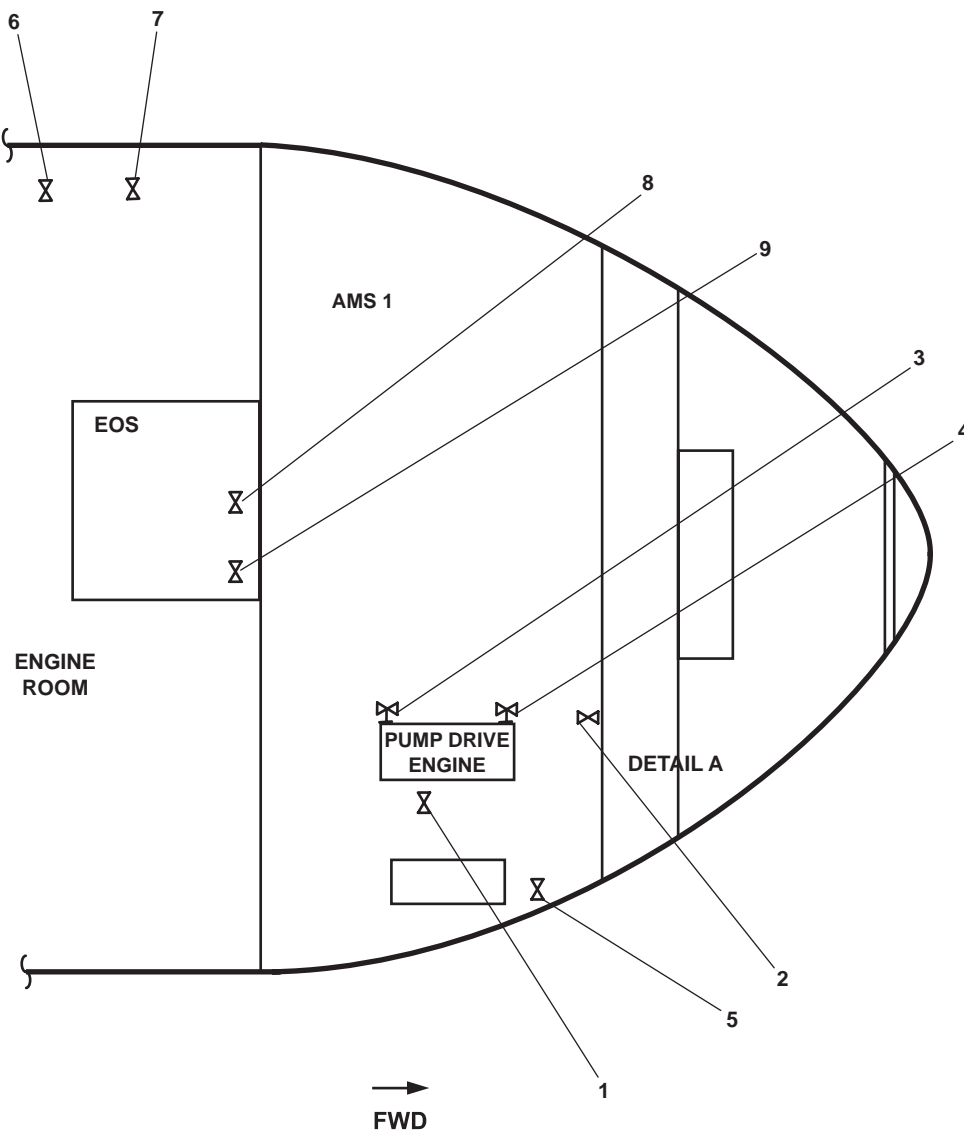

Figure 5. Towing Machine Hydraulic System Startup Valve Locations
- i. FO-31, F.O. SPLY TO PMP DRV ENG (figure 5, item 1)
- j. CA-6, STG AIR TO PMP DR ENG (figure 5, item 2)
- k. ASW-19, S.W. TO PUMP DRIVE ENG (figure 5, item 3)
- l. ASW-20, S.W. FR. PUMP DRIVE ENG. TO OVB'D DISCHARGE (figure 5, item 4)
- m. ASW-22, OVB'D DISCH. S.W. COOLING (figure 5, item 5)
- a. FO-33, F.O. RTN TO DAY TK. PORT (figure 5, item 6)
- b. FO-13, F.O. SERV. SUCT. PORT (figure 5, item 7)
- c. AE-28, SEACHEST VENT (figure 5, item 8)
- d. ASW-17, SEA SUCTION S.W. COOLING (figure 5, item 9)
- a. AE-28, SEACHEST VENT (figure 5, item 8)
- b. ASW-17, SEA SUCTION S.W. COOLING (figure 5, item 9)